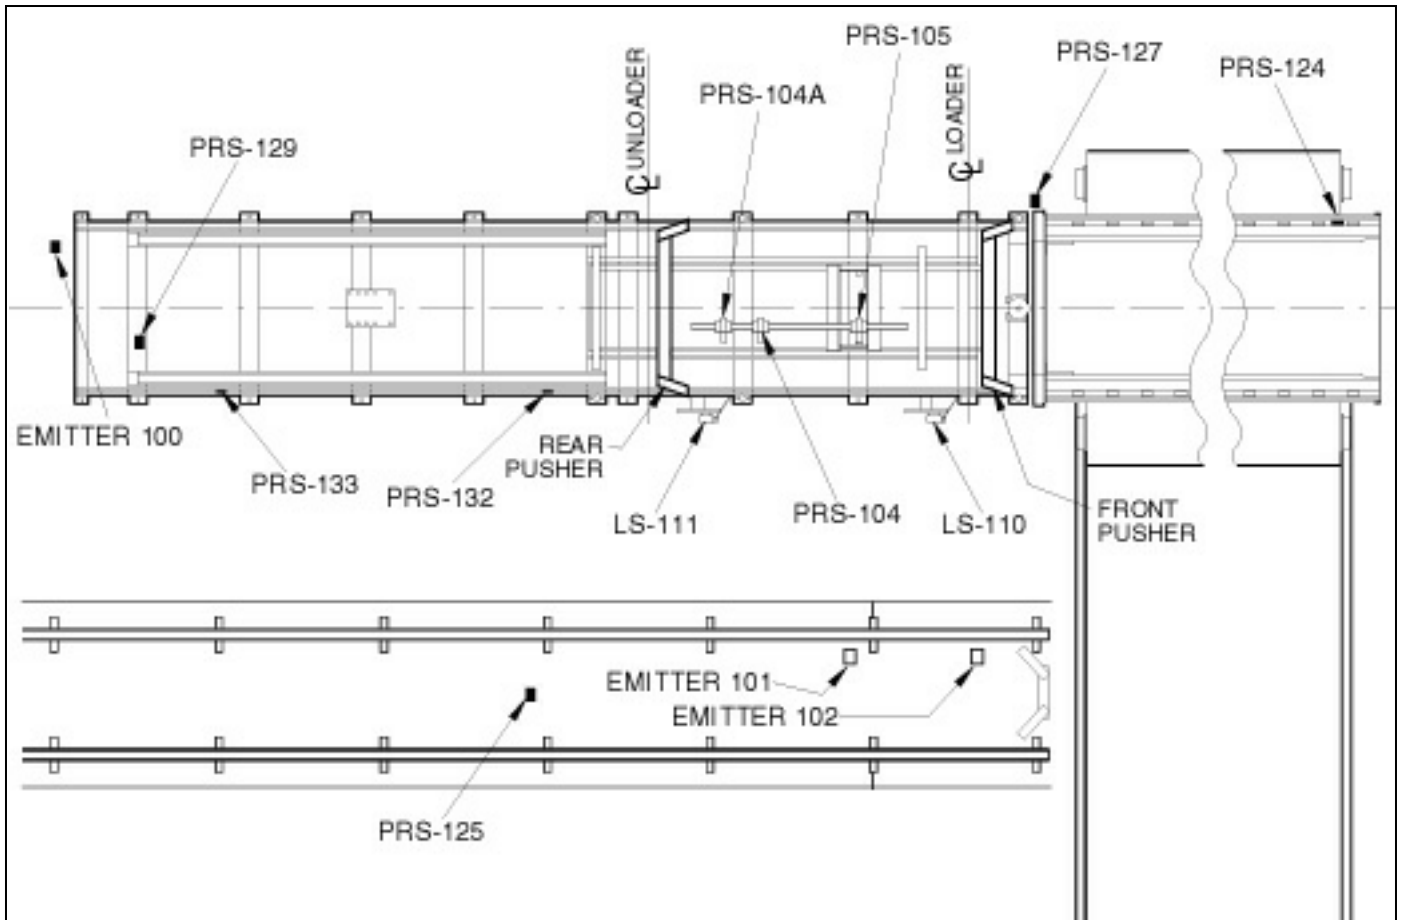

Figure 2.31 RACKVEYOR AND SIDE SHIFTER SWITCHES (LOADER SIDE SHIFTER).
2.3.4 PRS-105 (figure 2.31 and 2.32) switch indicates the "forward" position where racks are centered with loader center line and unloader center line. Adjust PRS-105 to tie-plate actuator.
2.3.5 PRS-104 (figure 2.31) switch indicates the "reverse" position to index to next bay. PRS-104 should be adjusted so that carriage hooks the next leg of the rack. Adjust PRS-104 to tie-plate actuator.
2.3.6 PRS-104A (figure 2.31) switch indicates carriage is reversing to pick up a new rack when bay is full (only on loader-side shifter). It should be adjusted to go past the first up rack to pick-up a fresh rack (full rack). Adjust PRS-104A to tie-plate actuator.
2.3.8 LS-110 limit switch (figures 2.31 and 2.32) indicates rack in position for loader. Should be adjusted to actuate off rack legs.
2.3.9 LS-111 limit switch (figure 2.31) indicates rack in position for unloader. Should be adjusted to actuate off rack legs.
2.3.10 When PRS-132 and PRS-133 (figure 2.31) are both covered by a rack, the indexer strokes to PRS-104A to get new rack. Adjust switches to within 1/4" [6.3mm] from bottom of rack.
2.3.13 PRS-129 (figure 2.31), when covered then uncovered, indicates that crawler is clear and rack index can take place. This switch should be adjusted to actuate off bottom of crawler (1/4" [6.3mm] below bottom).
2.3.16 LS-123 (figure 2.31) is located on the rail locks. It should be adjusted to actuate off cylinder to indicate locks are unlocked.
2.3.17 PRS-121 (figure 2.31) will indicate the left lock on the Side Shifter is locked up.
2.3.18 PRS-122 (figure 2.31) will indicate the right lock on the Side Shifter is locked up.
2.3.19 PRS-124 (figure 2.31) indicates that a rack is on the Side Shifter. It should actuate off bottom of rack (1/4" [6.3mm] below).
2.3.20 PRS-125 (figure 2.31) when covered then uncovered indicates that Crawler is clear of the Side Shifter.
2.4.4 PRS-105 (figure 2.31 and 2.32) switch indicates the "forward" position where racks are centered with loader center line and unloader center line. Adjust PRS-105 to tie-plate actuator.
2.4.7 LS-110 limit switch (figures 2.31 and 2.32) indicates rack in position for loader. Should be adjusted to actuate off rack legs.
2.4.8 LS-111 limit switch (figure 2.31) indicates rack in
2.4.9 When PRS-132 and PRS-133 (figure 2.31) are both covered by a rack, the indexer strokes to PRS-104A to get new rack. Adjust switches to within 1/4" [6.3mm] from bottom of rack.
2.4.10 PRS-129 (figure 2.31), when covered then uncovered, indicates that crawler is clear and rack index can take place. This switch should be adjusted to actuate off bottom of crawler (1/4" [6.3mm] below bottom).
2.4.13 LS-123 (figure 2.31) is located on the rail locks. It should be adjusted to actuate off cylinder to indicate locks are unlocked.
2.4.14 PRS-121 (figure 2.31) will indicate the left lock on the Side Shifter is locked up.
2.4.15 PRS-122 (figure 2.31) will indicate the right lock on the Side Shifter is locked up.
2.4.16 PRS-124 (figure 2.31) indicates that a rack is on the Side Shifter. It should actuate off bottom of rack (1/4" [6.3mm] below).
2.4.17 PRS-125 (figure 2.31) when covered then uncovered indicates that Crawler is clear of the Side Shifter.